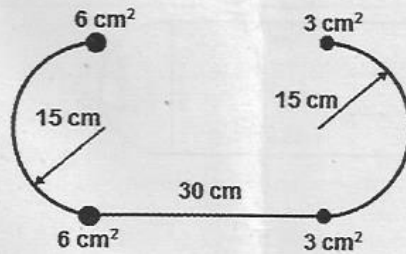

Fig.4
- (b) Determine the shear center for the idealized section shown in Fig.4. Assume the skin is ineffective in bending and the section is subjected to upward shear force of 2000 N.